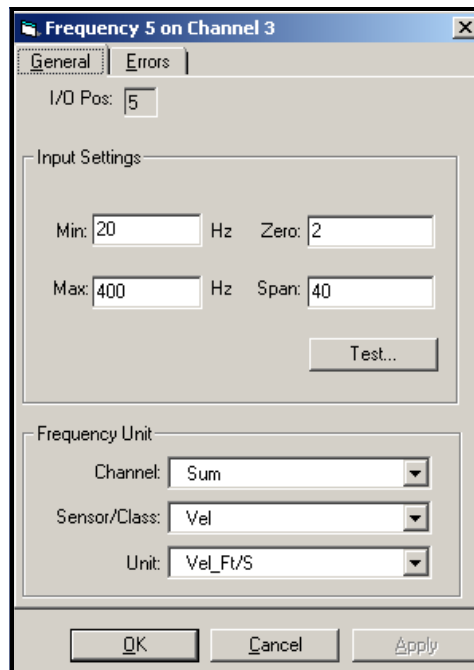

Figure 28: Frequency Properties
6. In the Frequency Unit section, select the desired output for Channel, Sensor/Class and Unit from drop-down menus, and click on Apply. The window should look similar to Figure 28 below.